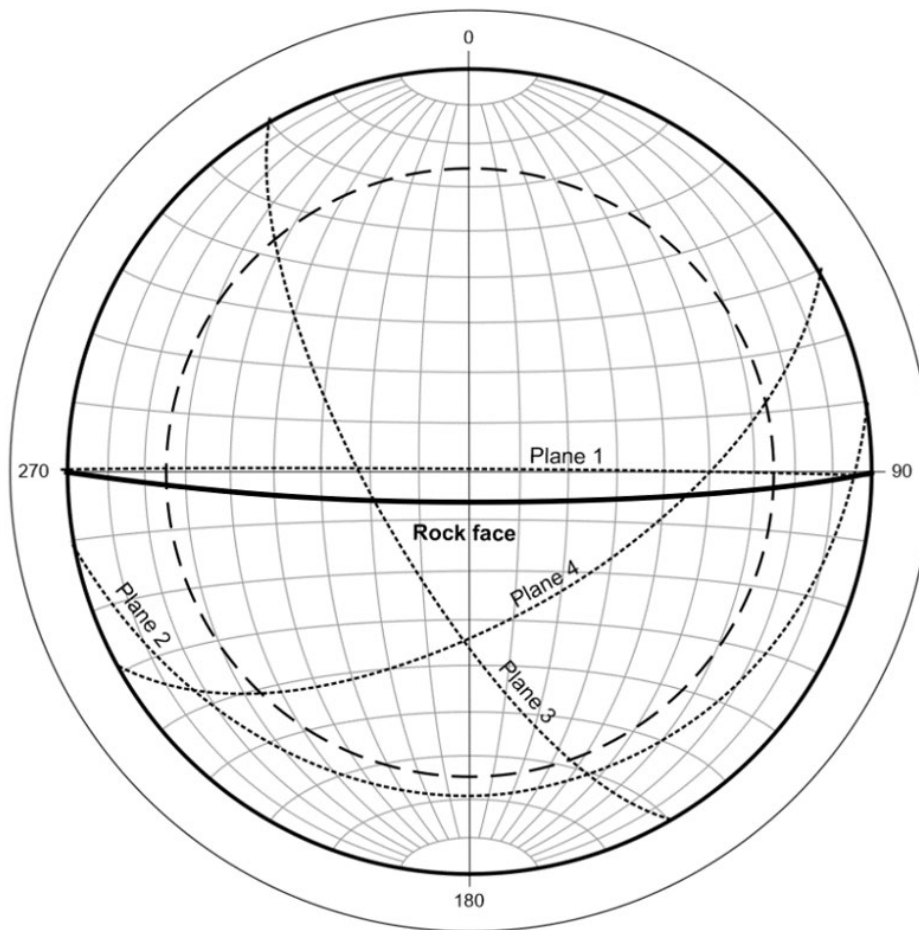

Figure QB4. A stereographic plot representing the rock face and its discontinuities
- b) **Figure QB4** represents a simplified stereoplot of the main features of the rock face.
- c) Critically evaluating all observations from the section and the stereoplot (**Figure QB4**), describe and explain: